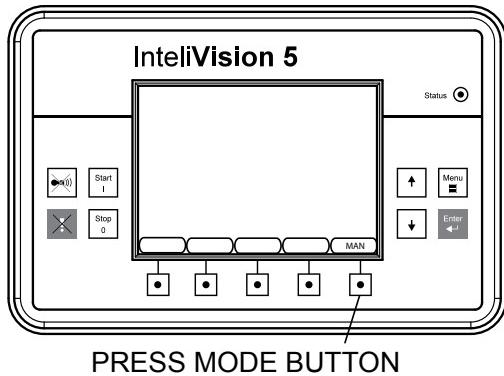

Figure 25. Mode Button (Manual)
8. Press the MODE button (Figure 25) on the Digital Controller Display and select manual mode (MAN) with the arrow keys. Press Enter key when MAN is highlighted on the screen.